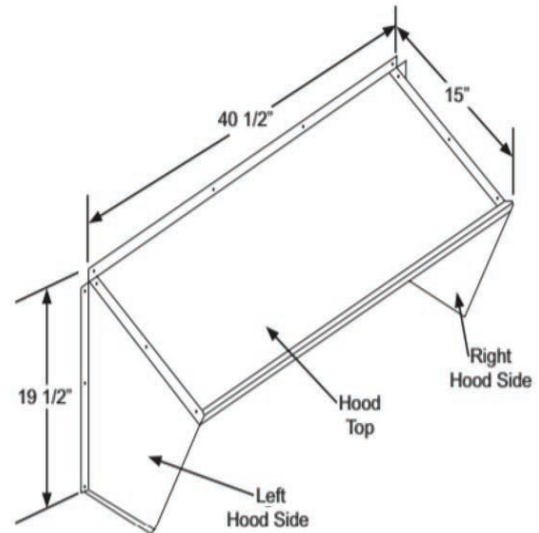

Fig. 25 — CRBARHOD001A00 Hood Sides and Top
5. Using the provided hardware, screw the CRBARHOD001A00 hood sides and top together. (See Fig. 25.)